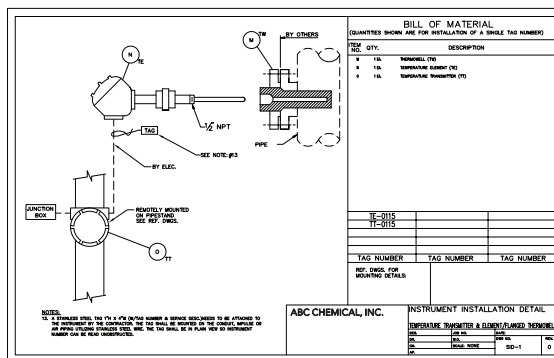

Figure 4-42: Installation Detail Drawing
4.4.3.1.4 – The Installation Detail Drawing tells contractors and pipefitters the location of each measurement point and how the components are to be installed. This construction document evolves from many decisions regarding thermowells, sensor elements, connection heads, transmitters, etc. See Figure 4-42.